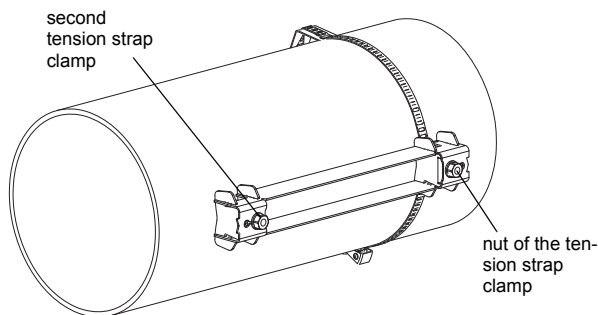

Fig. 7.13: Rail, mounted on one side of the pipe
- Screw the rail to the tension strap clamp that is fixed to the pipe (see Fig. 7.13).